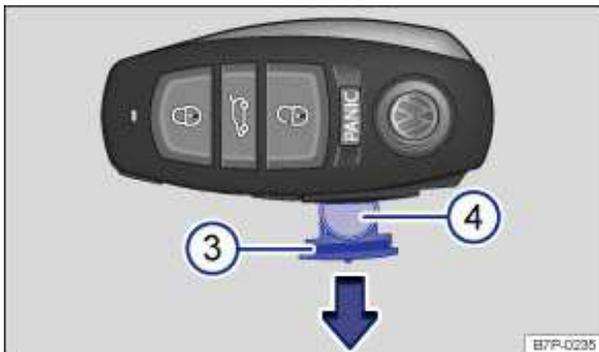

Fig. 22 Opening battery compartment of the remote control vehicle key.
- Pull the battery compartment out ⇒ fig. 22 (3) in the direction of the arrow and remove the battery (4).